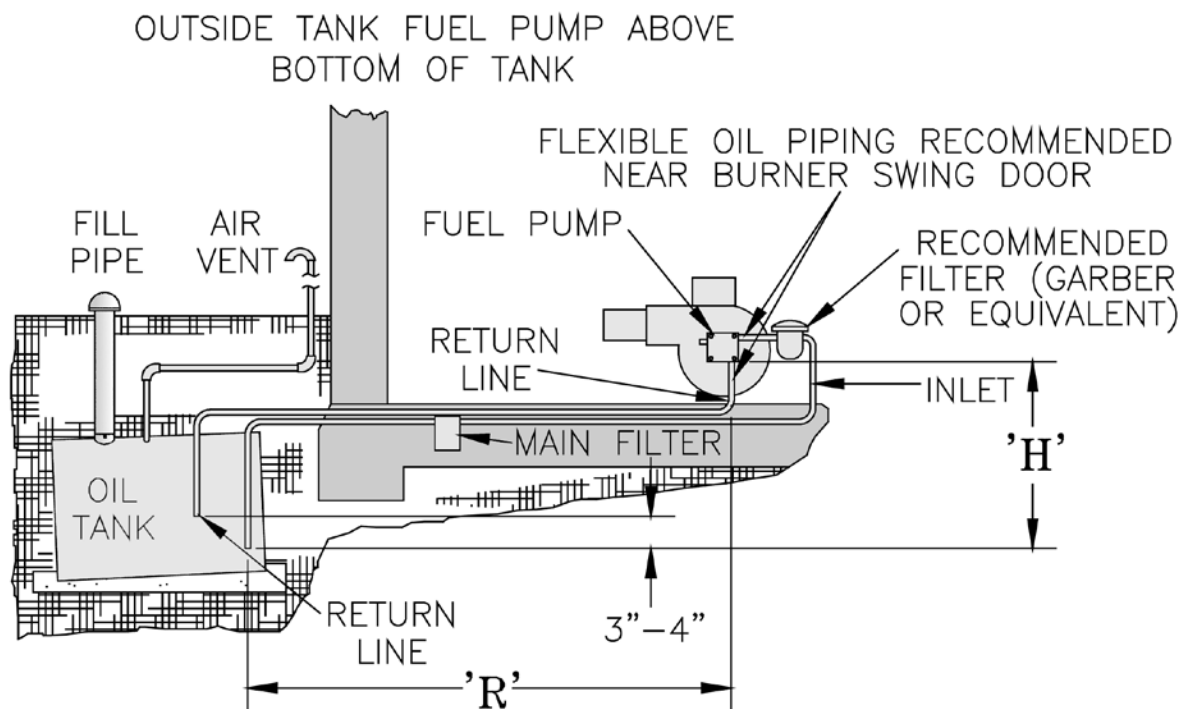

Figure 15: Two-Pipe Installation
- For two-piped systems, where more lift is required, the two-stage fuel unit is recommended. Table 4 (single-stage) and Table 5 (two-stage) show allowable lift and lengths of 3/8 inch and 1/2 inch OD tubing for both suction and return lines. Refer to Figure 15.